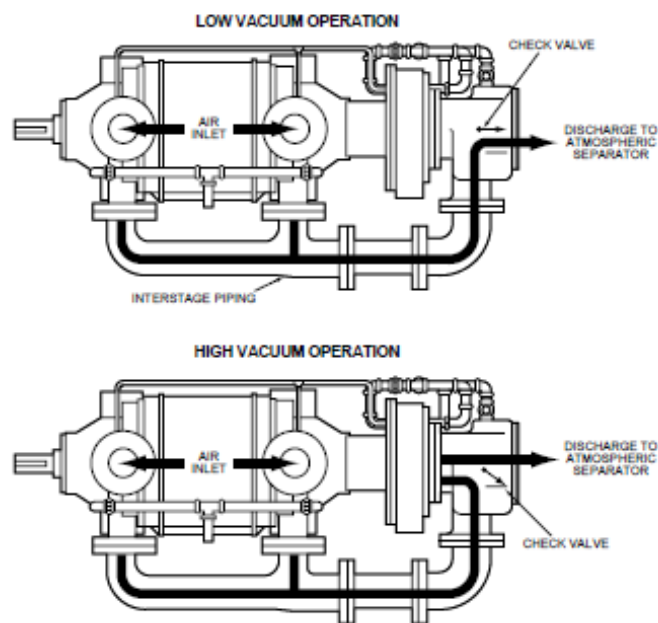
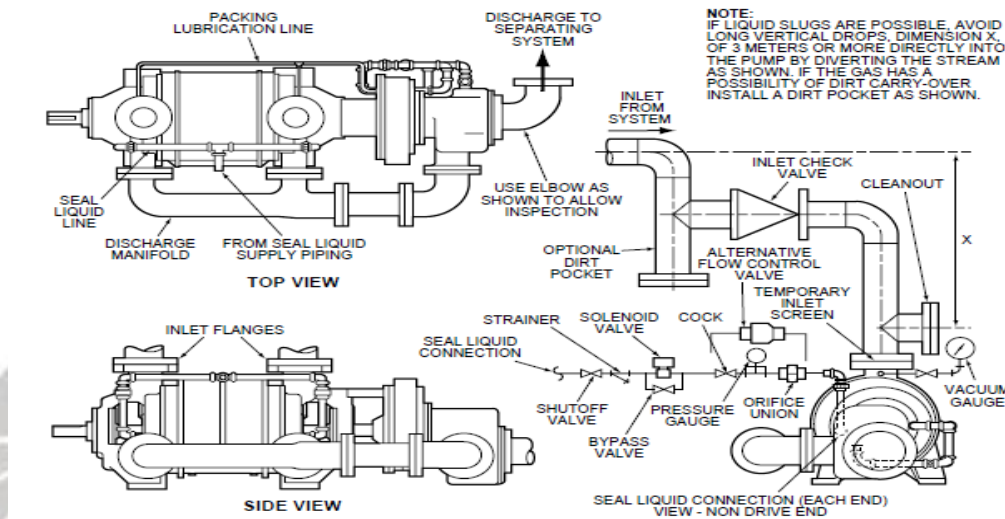

Fig. 1.3 Low and High Vacuum Operation
Figure 2.1. Typical Piping Connections
d. Operation under both low and high vacuum conditions is depicted in Figure 1.3. To ensure proper functioning and seal clearances between the cone and rotor, a liquid compressant (seal liquid) is introduced into the vacuum pump. This seal liquid is applied at the first stage heads, as illustrated in Figure 2.1, and travels through a passage in the heads to reach the cones. It then flows through the clearance between the cones and rotor into the rotor chamber. The seal liquid, along with the evacuated gas, is discharged into the second stage discharge manifold.
a. INLET PIPING (refer to Figure 2.1):
b. STRAINER (refer to Figures 2.1 and 2.3):
c. INLET SCREENS (refer to Figure 2.1):
d. CHECK VALVES (refer to Figure 2.1):
- d. Install a proper cleanout or removable piping section ahead of the pump inlet to facilitate the cleaning of inlet screens before their removal. Refer to Section 2.1 and Figure 2.1.
e. Use dirt pockets as an inexpensive form of insurance to protect the pump from the entry of pipe scale, welding shot, and foreign material present in the inlet piping. Refer to Section 2-1 and Figure 2-1.